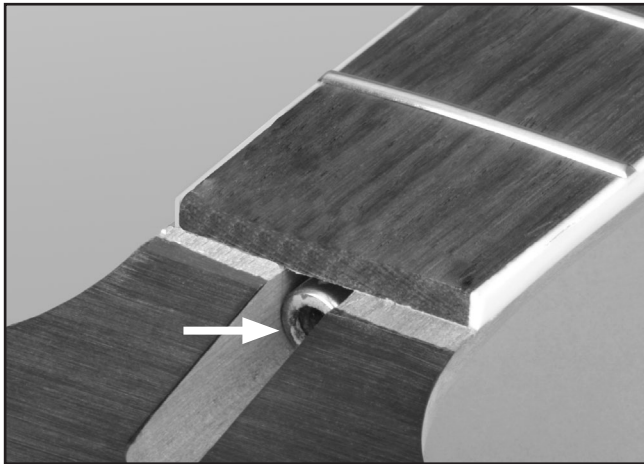

Figure 32. Example of truss rod nut.
- Loosen the strings, turn the truss rod cover out of the way, and turn the truss rod nut in the base of the neck (**Figure 32**) counterclockwise to release tension on the neck. Retighten until the nut begins to grab.